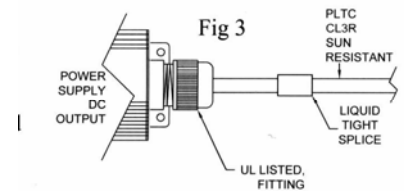

Fig 3
- Output cord must be rated and marked PLTC and CL3R and “Sun Resistant” (Fig3).